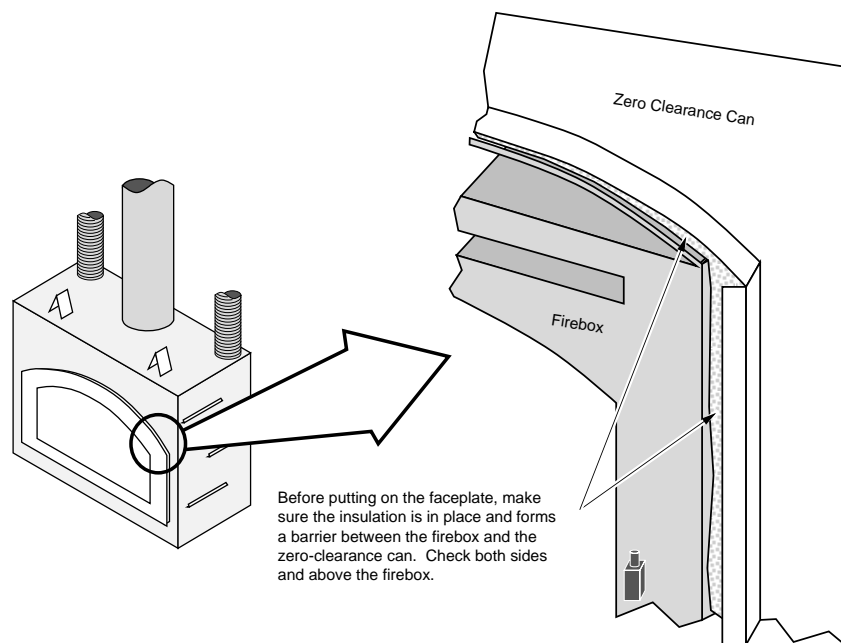

Figure 31
- Make sure the insulation between the firebox and fireplace can is still in place (see Figure 31).